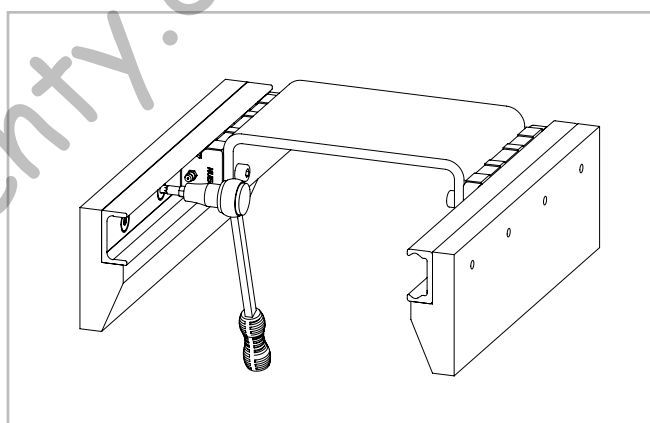

Fig. 110
(2) Install the compensating bearing rail and only tighten the fixing screws slightly.
(3) Insert the sliders in the rails and install the element to be moved, without tightening its screws.
(4) Insert the element in the center of the rails and tighten it with the correct tightening torque (see pg. 61, tab. 42).
(5) Tighten the center rail fixing screws to the specified torque (see fig. 110).
(6) Move the element to one end of the rail and start tightening the rest of the screws in the direction away from the slider.